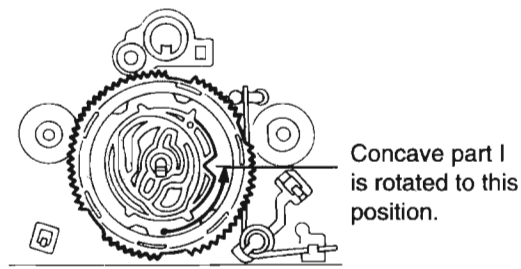

Fig 13
4. For making it possible to mount the FR arm assembly, align the concave section I of the control cam to the position as shown in Fig 13 while turning the control cam.